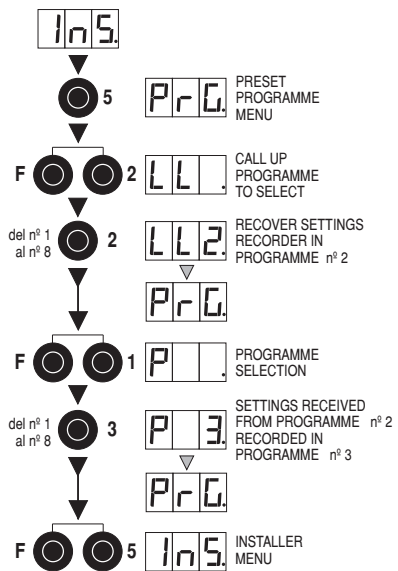

Fig. 7
- Copy content from one programme to another (Fig. 7).